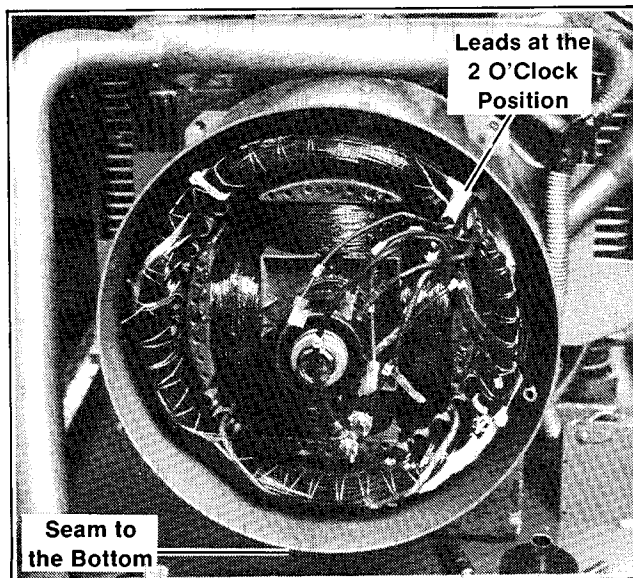

Figure 8-16. Installing Stator
3. Place stator over rotor and onto adapter lip. Be careful not to damage rotor. Position of stator should be with stator shell seam to the bottom and leads at the 2 o'clock position, see Figure 8-16.